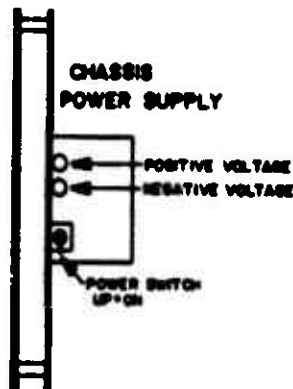

Figure 2-5. CP-100 POWER SUPPLY
2.2.4.1 CP-100 Power Supply - This card provides DC power for the logic rack. Input is 110V AC, outputs are +18V, -18V and GND. The outputs are not regulated. There are fuses on the ACV, +V and -V lines. The LEDs on the front of the power supply indicate that the power supply is on and that the fuses are intact (Figure 2-5).